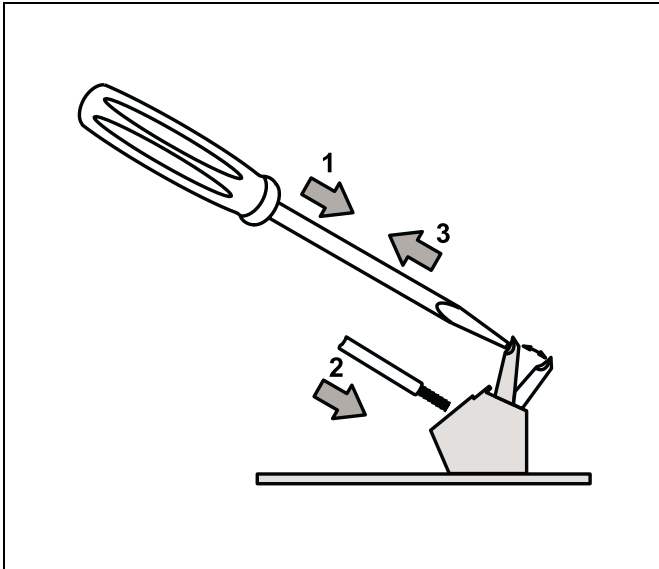

Fig. 35 Cable Insertion in the Screwless Spring Loaded Terminals
Operation: Lead (2), with the insulation stripped, can be inserted into the terminal when spring (1) is depressed. Then release the pressure (3) on the spring (Fig. 35).